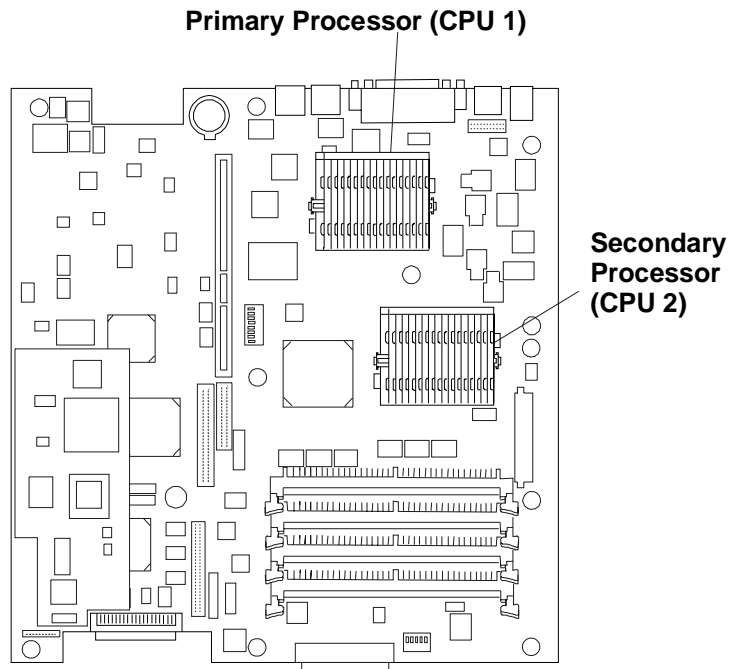

Figure 6-1. System Board (top view)
- Install the second processor in the secondary socket (CPU 2). See Figure 6-1.
This section provides the instructions for installing a second processor and its heatsink on the system board. Figure 6-1 indicates the location of the primary and secondary processors.